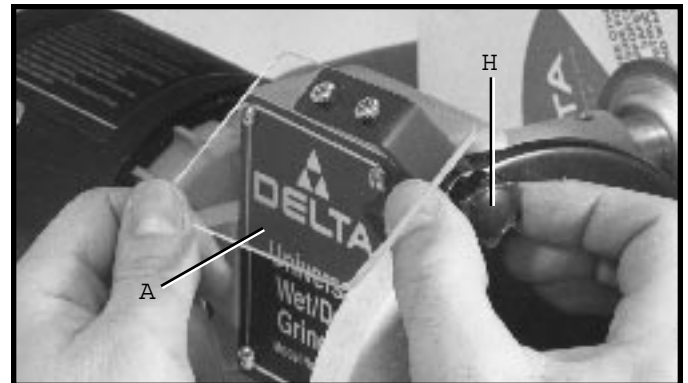

Fig. 4
3. The eye shield (A) Fig. 4, is fully adjustable so it can be put in any desired position by loosening lock knob (H) and moving the shield (A).